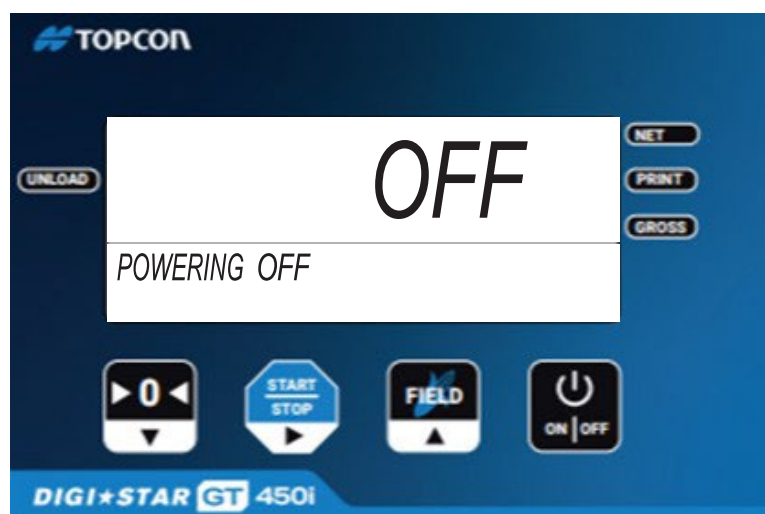

Figure 2-10: Turn Off Indicator
1. Press and hold **ON/OFF** until **OFF** is displayed, (Figure 2-10).